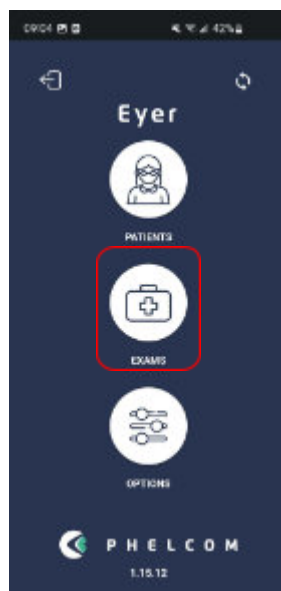
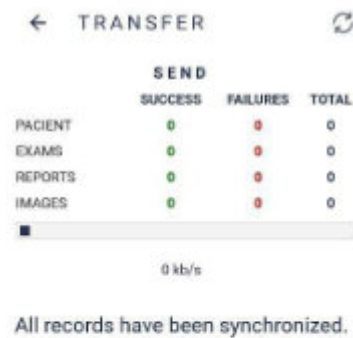

Figure 25 - Home screen - Select exams
Figure 33 – Device transfer status
1. On the home page, the user must click on "Exams", as shown in figure 25
After login, a screen displays, figure 25. It enables accessing all system functions: patients, exams, and options. Click the synchronization icon  , figure 25, to check transfer status, figure 33.
Accessoption 1, “Patients”, in the main screen, figure 25, to register, visualize, alter information, aswell as carry out examsand diagnostics through patient information.
Selecting icon 1, figure 25, displays a screen as in figure 34. Here, a list of registered patient names displays. Activate button  and insert patient information. Highlighted fields in figure 35 must be filled in.